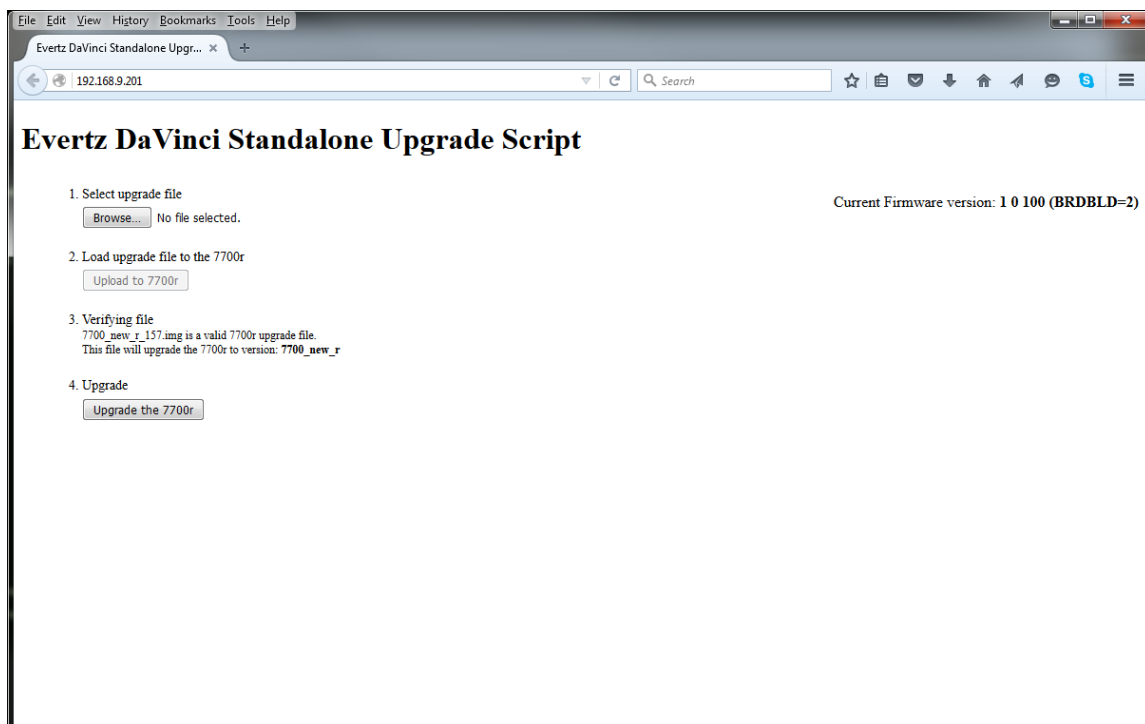

Figure 6-3: 7700R Upgrade Screen for Upgrade
4. Click on the upload button and once the file is uploaded, it will be verified by the system to ensure it is valid. If the file is valid, an *Upgrade* button will appear, as shown in Figure 6-3.